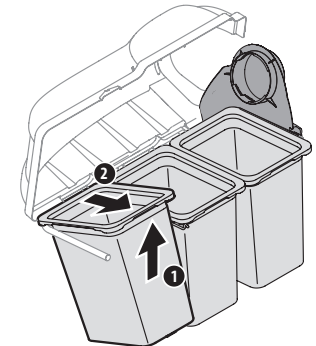

Figure 14
8. Install the grass bag assemblies (664-05104), with the tight mesh panel facing the tractor, onto the bag support brackets by inserting the front edge in first, as shown in (1) of Figure 14, and setting the back edge down (2) until it fits into the assembly.